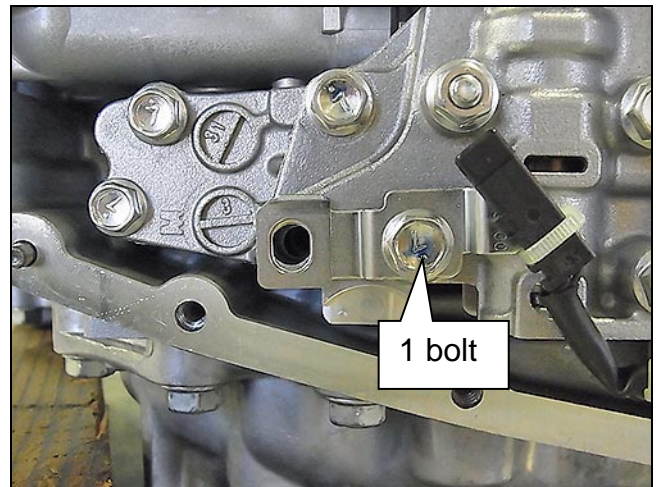

Figure 30
6. Install the CVT fluid temperature sensor bracket to the valve body with one (1) bolt (Figure 30).
**NOTE:** Leave one (1) bolt hole blank as it will be used to secure the oil strainer at a later step.